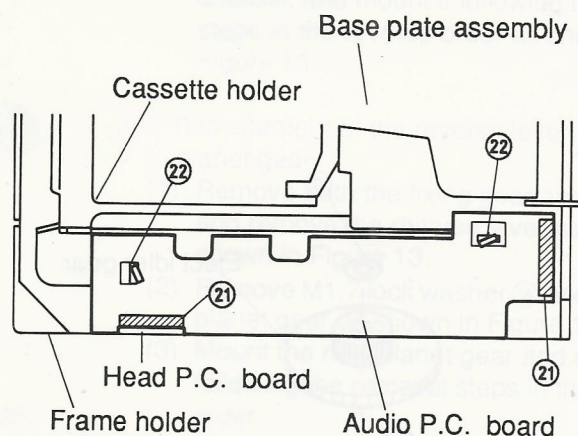

Figure 16
- (1) Remove two solders (21) and remove the parallel wire (7P) and the head PC board as shown in Figure 16.
- (2) Adjust the two claws (22) to the rectangular holes on the PC board and remove the PC board as shown in Figure 16.
- (3) After replacement, mount the new PC board following the removal steps in the reverse order.